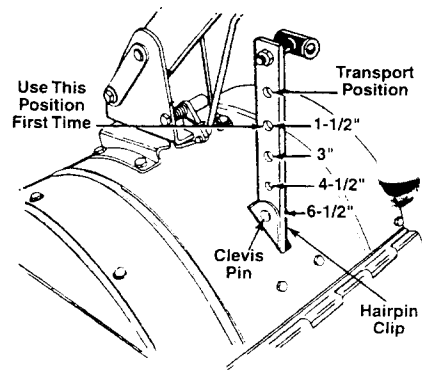
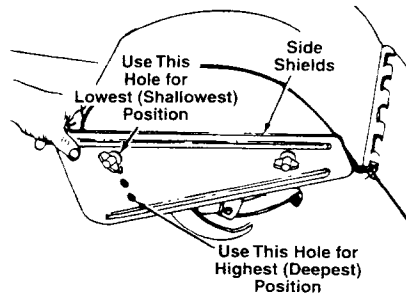

FIGURE 14
FIGURE 15
**WARNING:** When operating the tiller for the first time, use the depth bar setting that gives 1-1/2 inches of tilling depth (second hole from the top). Refer to figure 14.
Tilling depth is controlled by the depth bar which can be adjusted to five different settings. See figure 14. Adjust the side shields as shown in figure 15, as you adjust the depth bar. Be certain spark plug wire is disconnected and grounded against the engine.
1. When using the tiller for the first time, use the second adjustment hole from the top (1-1/2" of tilling depth). See figure 14.
To adjust the depth bar, remove the clevis pin and hairpin clip. See figure 14. Move the depth bar to the desired setting.
To adjust the side shields, remove the hex nut and Belleville washer from the front and loosen the rear nut. See figure 15. Pivot the side shield to the desired position. Replace hex nut and Belleville washer. Tighten securely.